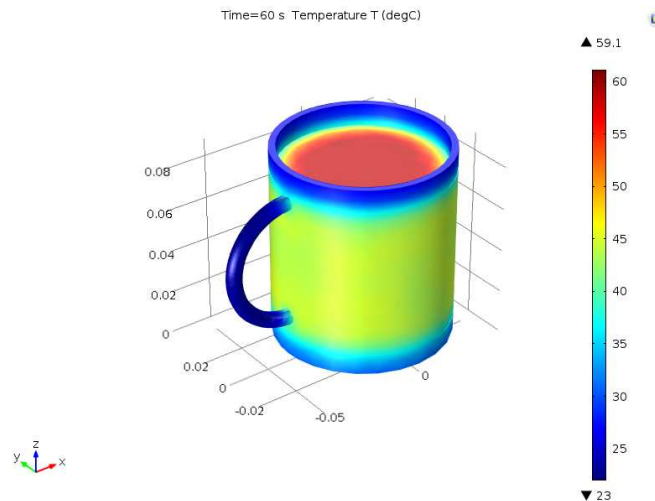

ABBILDUNG 7.1. Surface of the heat distribution (temperature) T (in $^{\circ}\text{C}$) of the coffee cup at time $t = 60$ (in s)
- The result is shown in Figure 7.1.